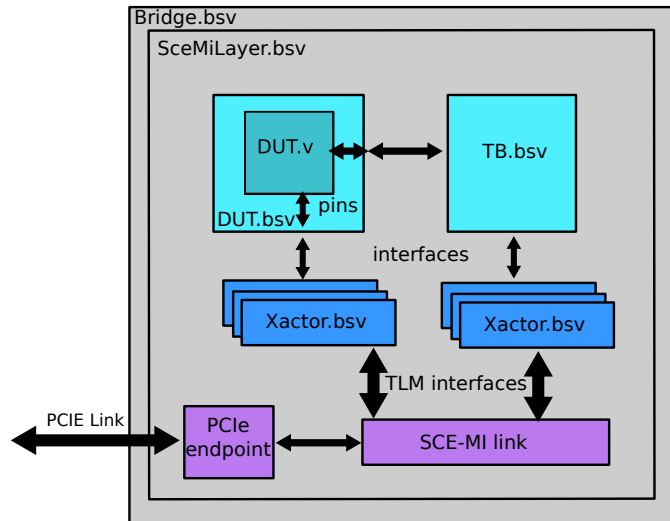

Figure 10: Hardware side of Emulation App
As you can see in Figure 10, the SceMiLayer can instantiate both the design under test (DUT), as well as a testbench (TB). The testbench can be written in Verilog, and wrapped to provided BSV interfaces, or written in BSV, as shown in the figure. The DUT and the TB communicate directly, and also connect individually through the hardware transactors to communicate through the PCIe link to the host side.